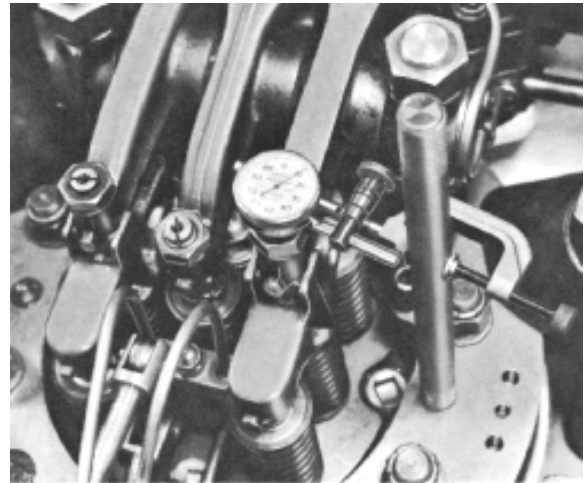

Fig. 7-20 - Timing Exhaust Valves
To check timing, place a dial indicator on the rocker arm adjusting screw as shown in Fig. 7-20. Valve end of rocker arm must be in its highest position, so that the exhaust valves are closed. Press indicator down approximately 2.54 mm (.100") and set dial to zero.
- Apply dial indicator to the rocker arm adjusting screw, Fig. 7-20, as done in "Checking Exhaust Valve Timing."